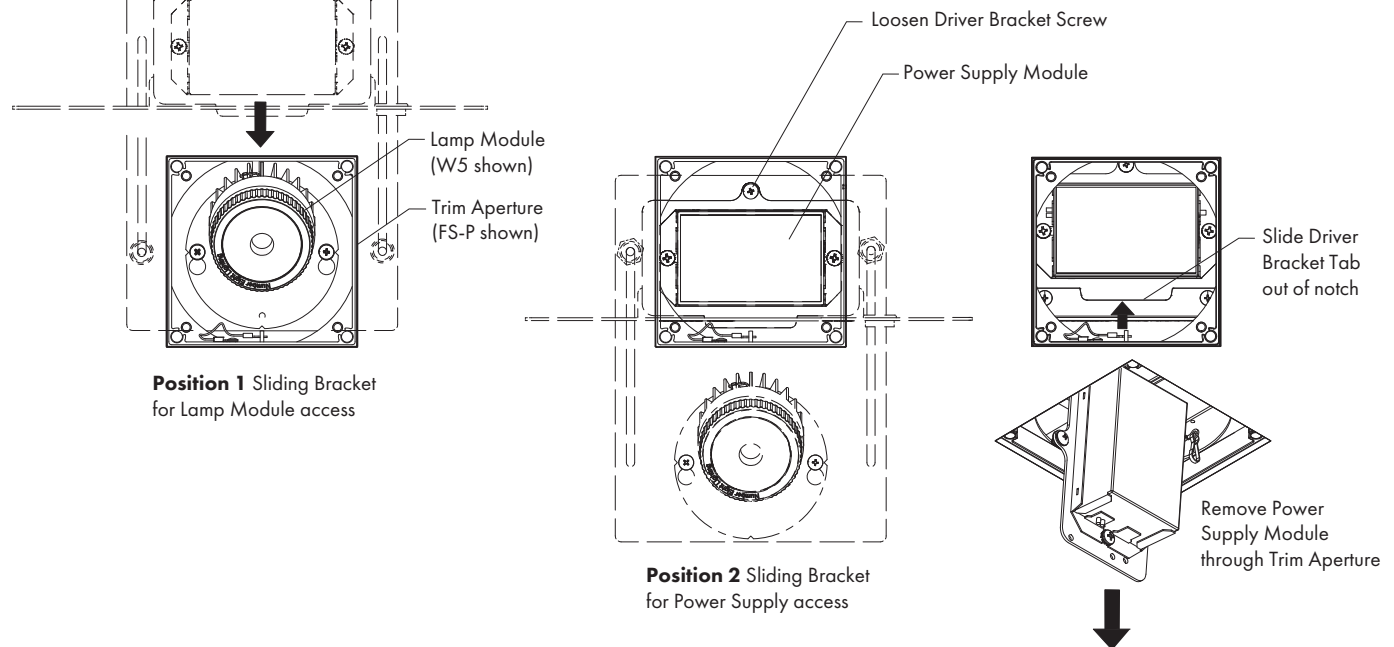

FIG 15.2 Sliding Bracket Positioning and Remove/Replace Power Supply Module
STEP 3 Move Sliding Bracket along slots to expose Power Supply Module in the aperture (Position 2) - **FIG 15.2.**
STEP 4 Loosen Driver Bracket Screw, remove Power Supply Module through aperture, and disconnect wire connections - **FIG 15.2.**